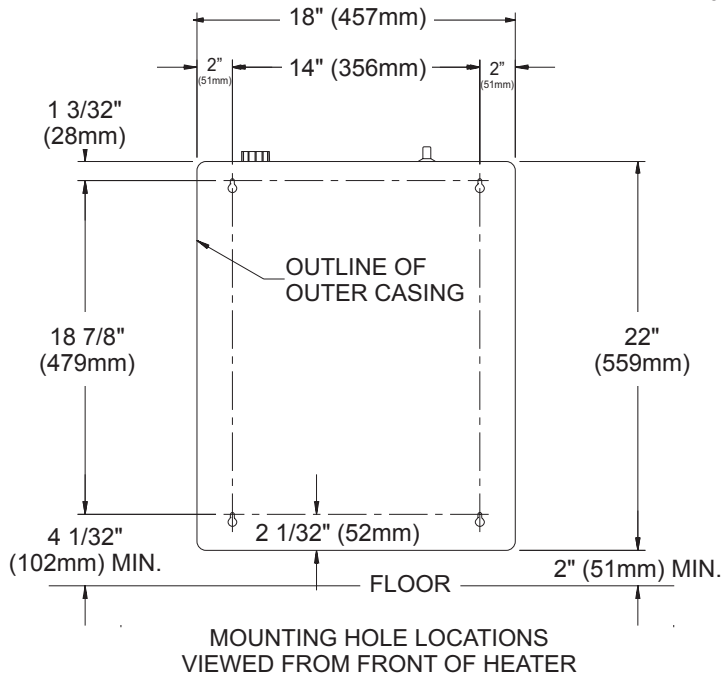

Figure 6
Refer to **Figures 6 and 7** for measurements in order to locate (4) mounting holes on wall. **Figures 6 and 7** are the front views of the heater.